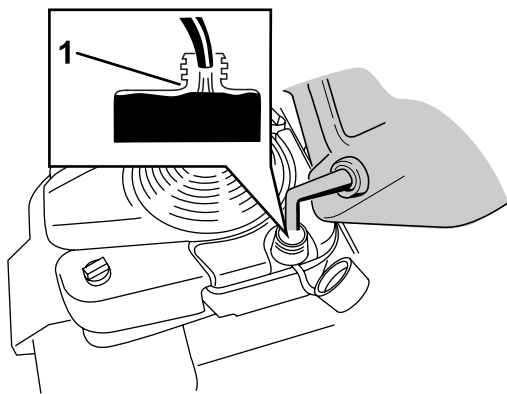

Figure 12
1. Clean around the fuel-tank cap and remove the cap from the tank (Figure 12).